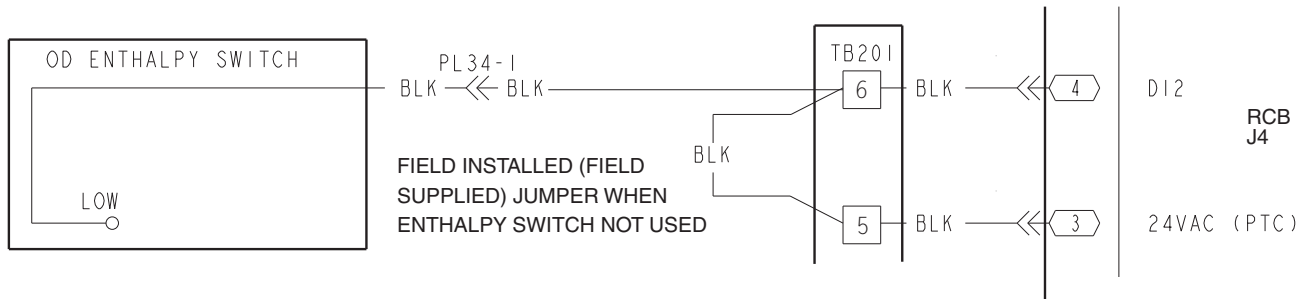

Fig. 58 — Outdoor Air Enthalpy Switch Wiring
- Outdoor air enthalpy switch (Fig. 58)